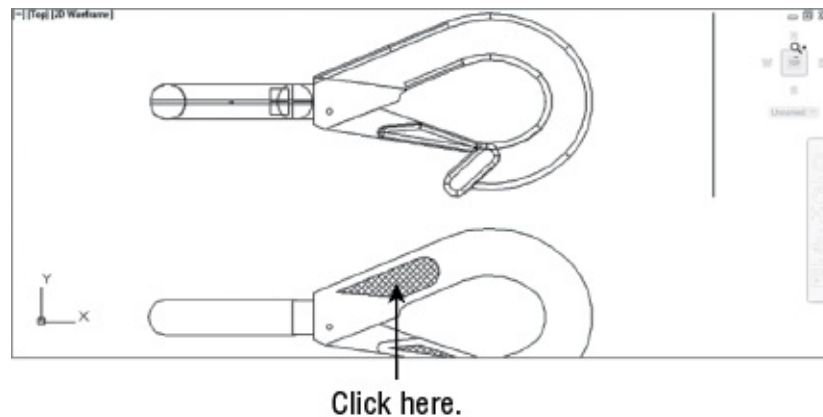

FIGURE 1.23 Erasing a portion of the clip
5. Place the pickbox on the crosshatch pattern of the clip (see Figure 1.23), and click. The crosshatch dims. The pickbox and the `Select objects:` prompt remain, indicating that you can continue to select objects.